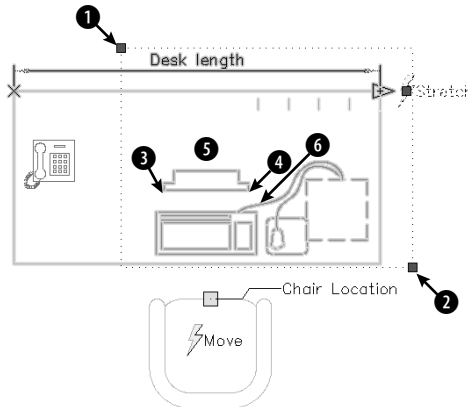

**Figure 18-24:** The DeskSet block after adding a move action to the armchair and a stretch action to the desk.
Specify first corner of stretch frame or [CPolygon]: *Click at ❶ in Figure 18-24.*
11. The block should look like Figure 18-24.
13. At the next two prompts, pick points ❸ and ❹ in Figure 18-24. Then place the parameter label above the monitor.
16. Click the **Actions** tab on the Block Authoring Palettes and choose **Stretch Action**. At the **Select parameter:** prompt, select the linear parameter that you just created. At the next prompt, click the right parameter point. To specify the stretch frame, pick ⑤ and then ⑥ in Figure 18-24. To select objects, pick near ⑥ and then near ⑤. Press **Enter** to end selection. Specify a label location above the monitor.